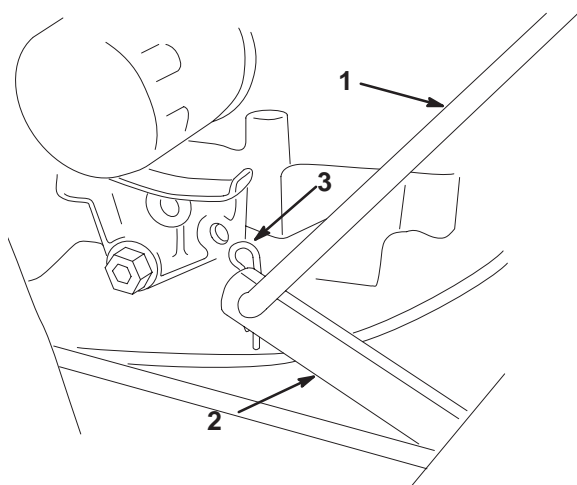

Figure 6
- From outer side of bell crank, insert end of blade control (PTO) rod thru hole (Fig. 6).
- Secure the blade control (PTO) rod to the bell crank with a hairpin cotter (Fig. 6).